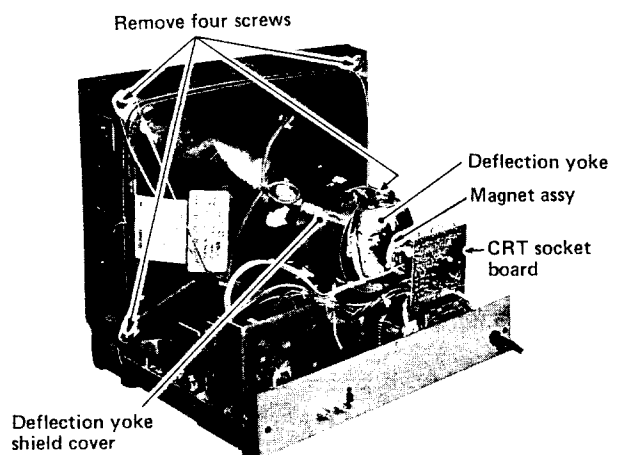

Fig. 3-3
- Disconnect the CRT socket board by pulling it backward. (Fig. 3-3)